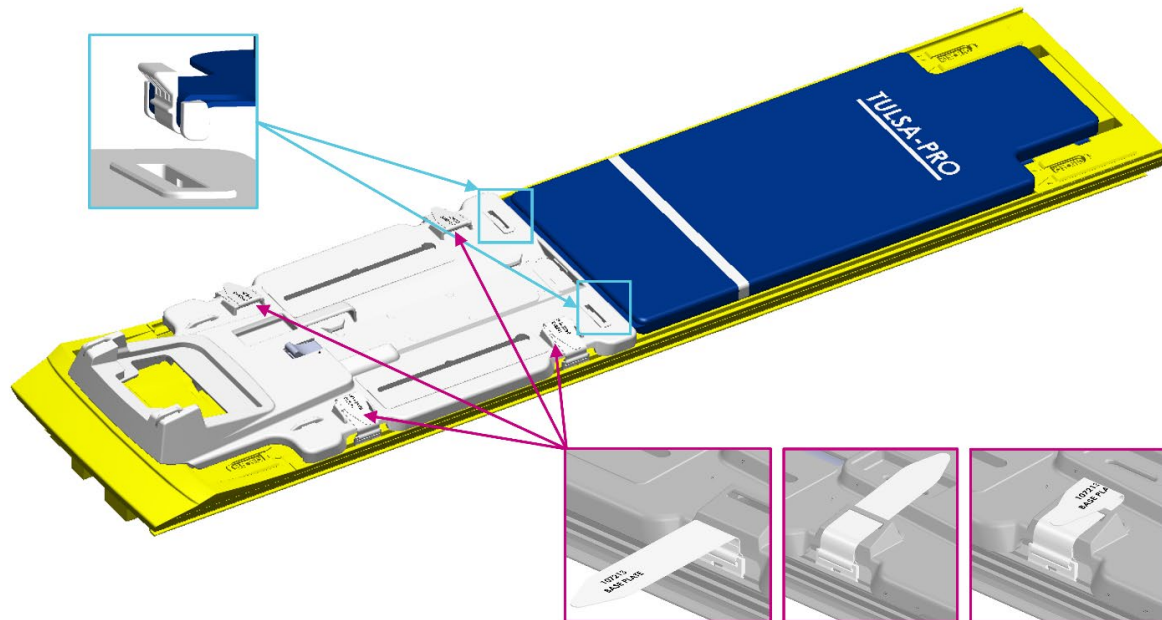

Figure 2. Securing the base plate and patient pad to the MRI bed.
1. **MRI Technologist:** Attach the base plate onto the foot end of the MRI table and secure using the four base plate straps (Figure 2, some configurations not exactly as shown). The feet of the base plate should fit in the rails of the MRI table and not move around when in position.
2. Place the patient pad on the MRI table and secure it using the provided straps (Figure 2, some configurations not exactly as shown). Drape the upper part of the patient pad with a sheet and place an absorbent pad at the end closest to the base plate.